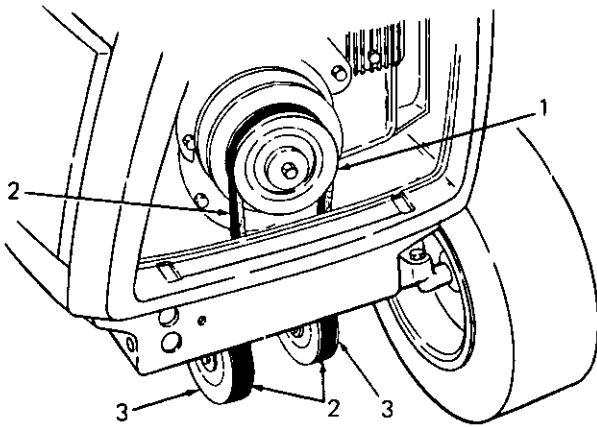

Figure 17
- Place belt included in adapter kit over PTO clutch pulley as shown in Figure 17.
- Pull the drive belt forward and route the belt around the idler pulleys. The narrow side of the belt must be in the bottom of the pulley grooves. Refer to Figure 17.